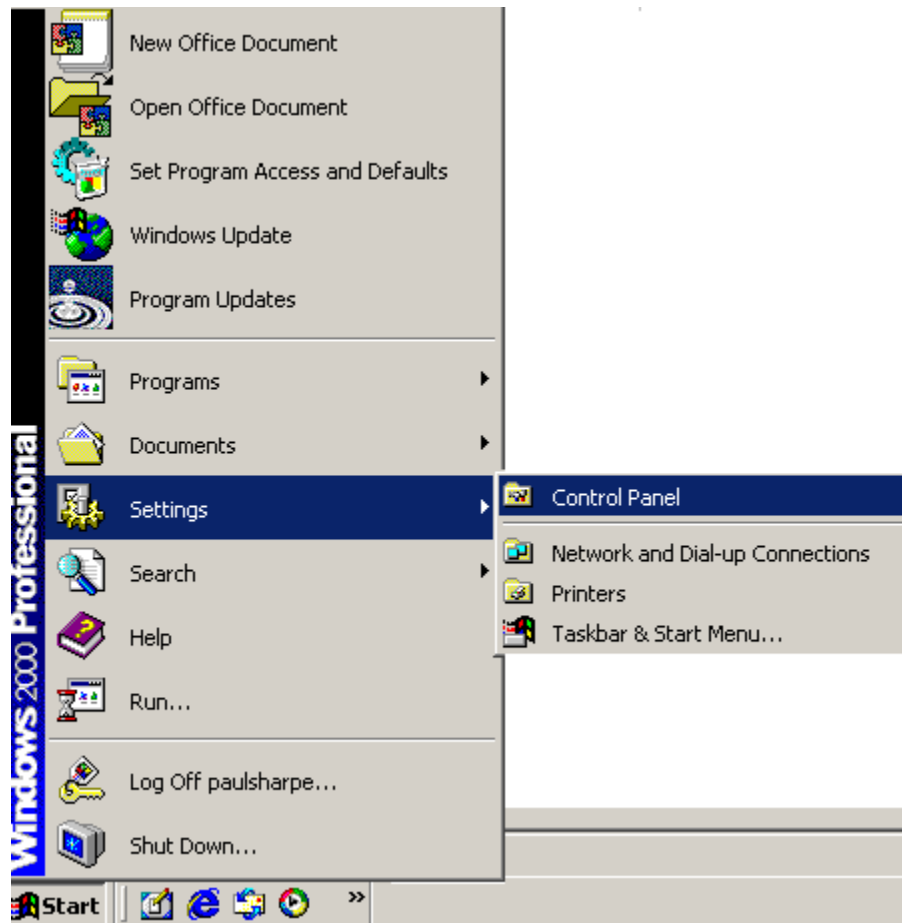

Figure 7-12: Access Windows Control Panel
Step 1: Open Windows Control Panel (Figure 7-12).